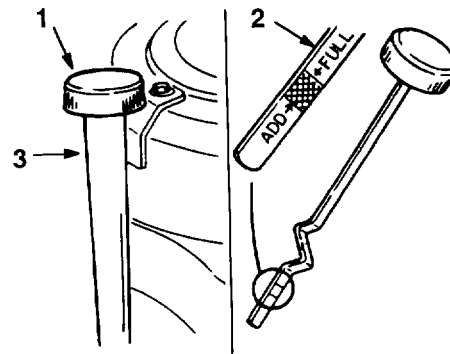

Figure 32
3. Clean around the oil dipstick (Fig. 32) so dirt cannot fall into the filler hole and damage the engine.
4. Unscrew the oil dipstick and wipe the metal end clean (Fig. 32).
5. Screw the oil dipstick fully onto the filler tube (Fig. 32). Unscrew the dipstick again and look at the metal end. If oil level is low, slowly pour only enough oil into the filler tube to raise the level to the "FULL" mark.
- Slowly pour approximately 80% of the specified amount of oil into the filler tube (Fig. 32). Now check the oil level; refer to Checking Oil Level, page 30, steps 4-5.